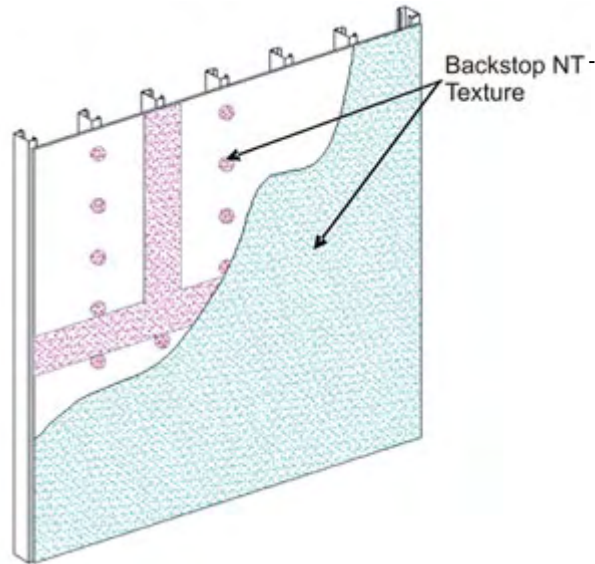

Figure 2
- Use a coarse, open-cell foam roller cover with a 9.5 mm (3/8 in) foam nap (FoamPro #58 roller). Apply a uniform, continuous film of Backstop NT - Texture over the entire surface of the sheathing, concrete or masonry, including the previously treated areas – Figure 2. **NOTE: If the roller pulls material back out of the sheathing joints, it indicates that the joint material is not sufficiently dry.**